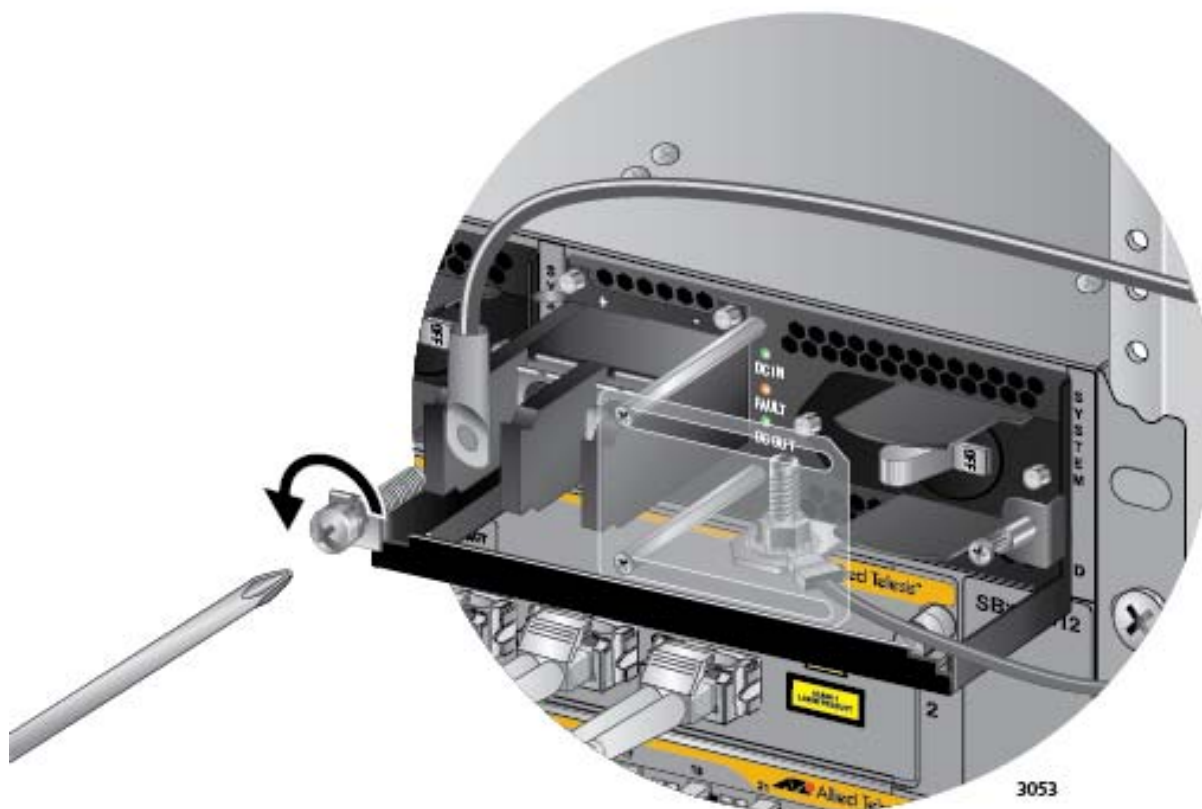

Figure 148. Removing the Positive Lead Wire from the Terminal Block
6. Use a #3 screwdriver to remove the positive (+) lead wire from the terminal block. Refer to Figure 148 on page 230.